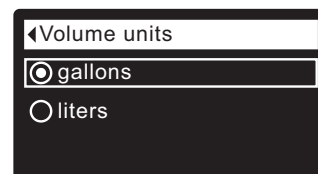

FIG. 59
5. Press the SELECT (O) button to display the Volume units menu (See Figure 59).
6. If the desired volume unit already has a dot next to it (See Figure 59), go to Step 7. Otherwise, press the DOWN (▼) or UP (▲) buttons to scroll to the other volume unit, then press SELECT (O) to choose it.
7. Press the SELECT (O) button. The display will go back to the User preferences menu.